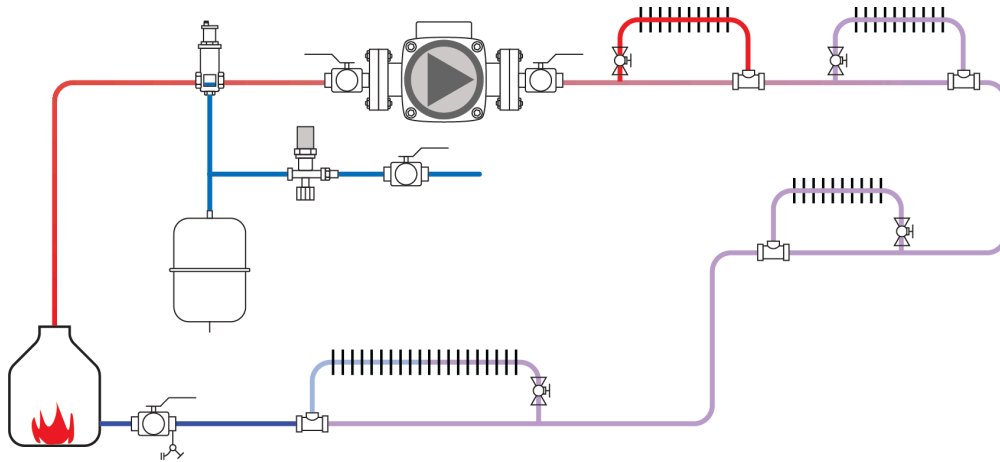

Figure 1
7. What system is shown in Figure 1?